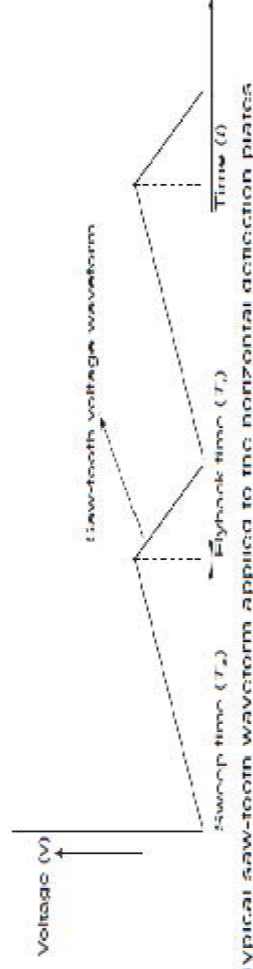

FIGURE 14-6 TYPICAL SAW-TOOTH WAVEFORM APPLIED TO THE HORIZONTAL DEFLECTION PLATES
- A voltage with such characteristics is called a ramp voltage. If the voltage decreases rapidly to zero—with the waveform repeatedly produced, as shown in Fig. 14-6—we observe a pattern which is generally called a saw-tooth waveform.